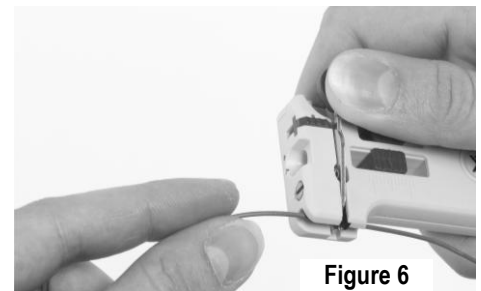

Figure 6
6. To use the Wire Cutter for wire up to 0.8mm diameter (20 AWG), insert the wire and depress the Stripper Blade Lever. See Figure 6.